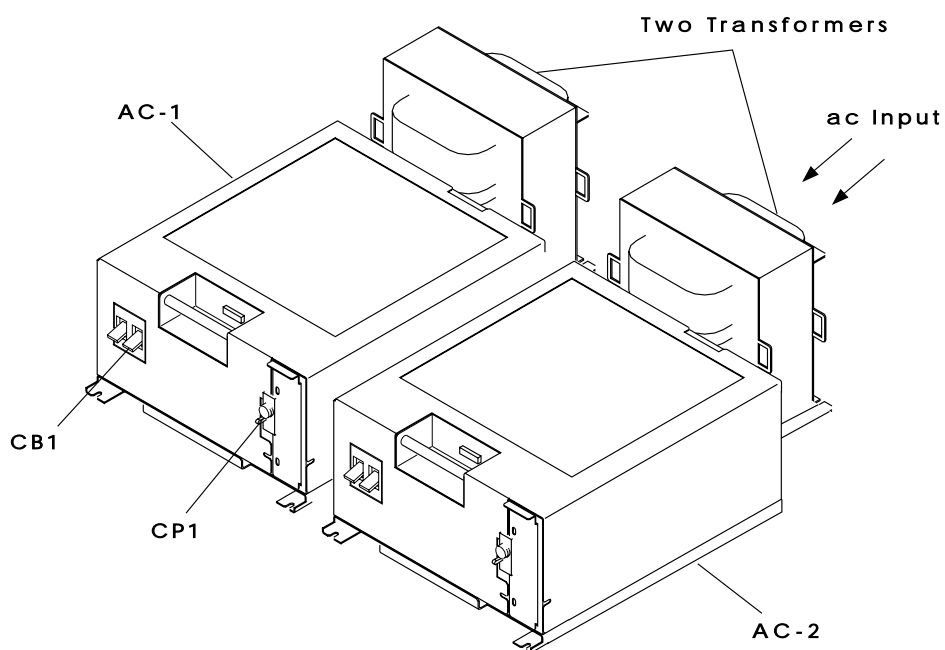

Figure B-11. 3746-950 Power Area with 2 AC (AC-2 is Optional)
- Step 2. \_\_\_\_ **Switch** the main circuit breaker CB1 **OFF** at the 3746-950 primary power box. (See Figure B-11 on page B-8, or Figure B-12 on page B-8 if the optional power feature is installed).